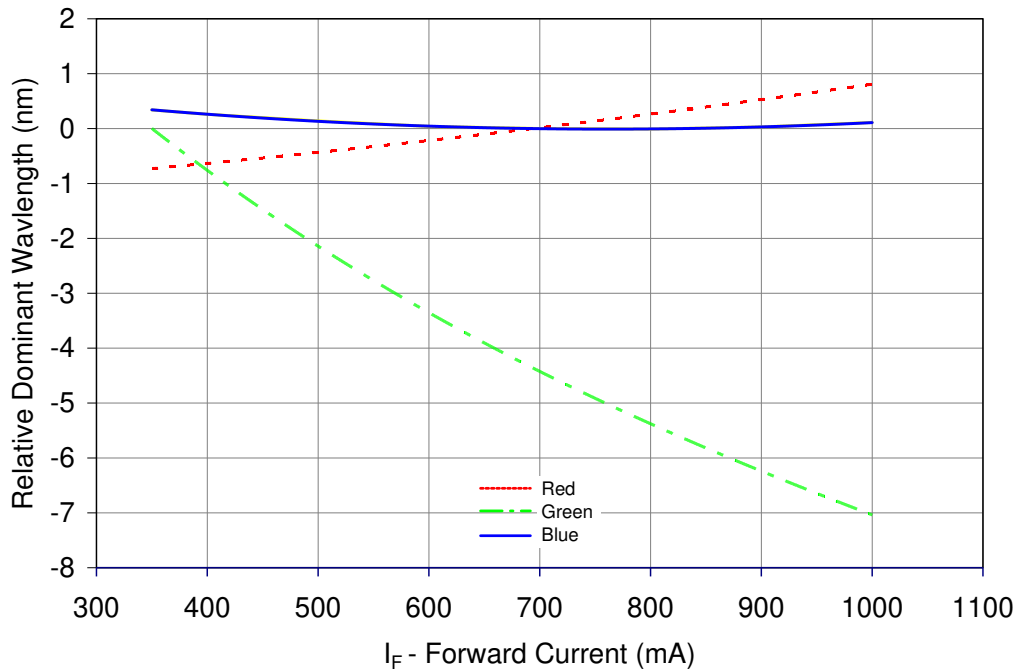

Figure 6: Typical dominant wavelength shift vs. forward current @  $T_c = 25^\circ\text{C}$ .
- Refer to Figure 6 for typical dominant wavelength shift over forward current.
Notes for Figure 6: